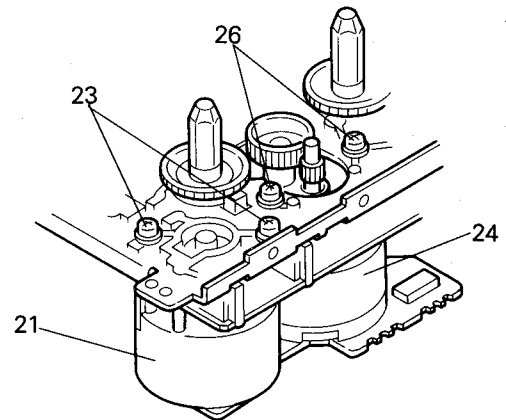

Fig. 7-28
■ **Reel and Actuator motor assembly** (Fig. 7-28, 7-29)
1. Remove four screws (23, 26) retaining the reel motor (21) and the actuator motor assembly (24). (Fig. 7-28)